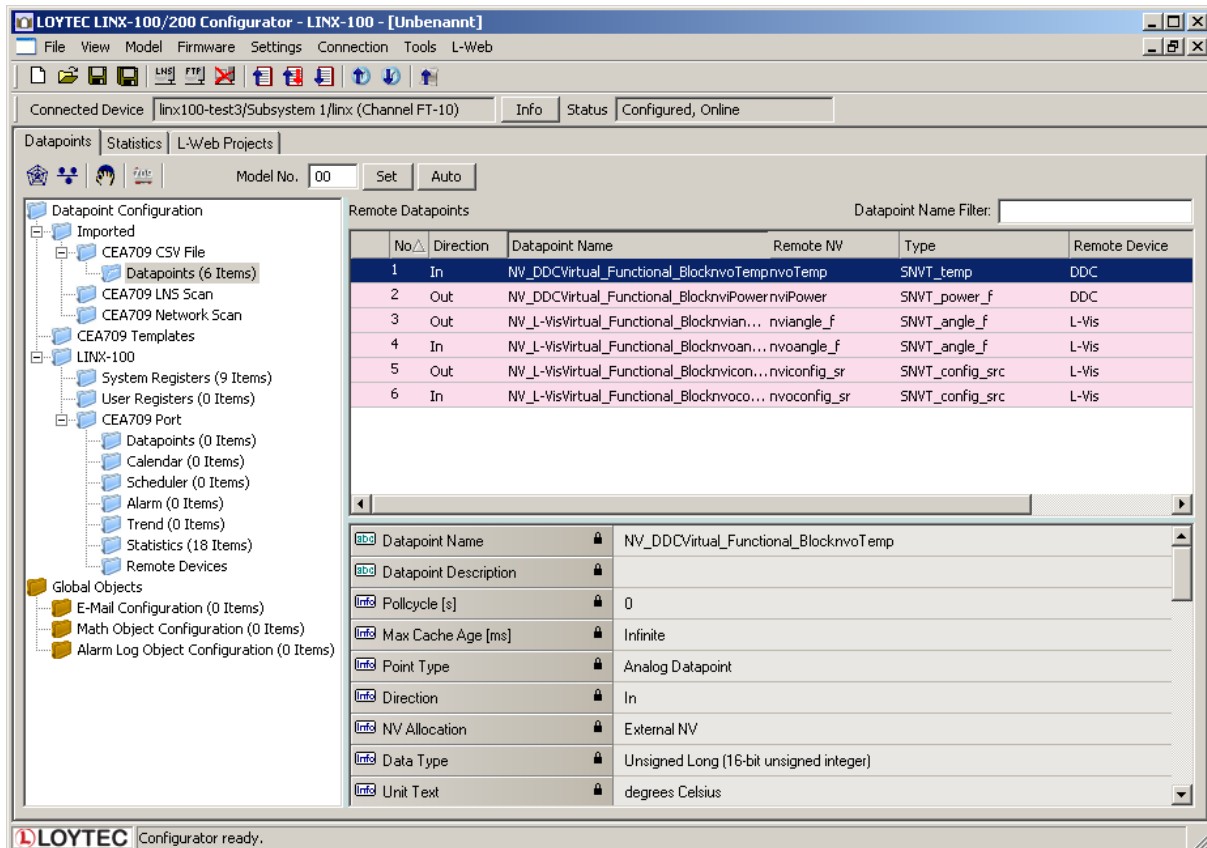

Figure 79: Imported NVs.
4. Now the CSV File folder is populated with the imported NVs as shown in Figure 79.